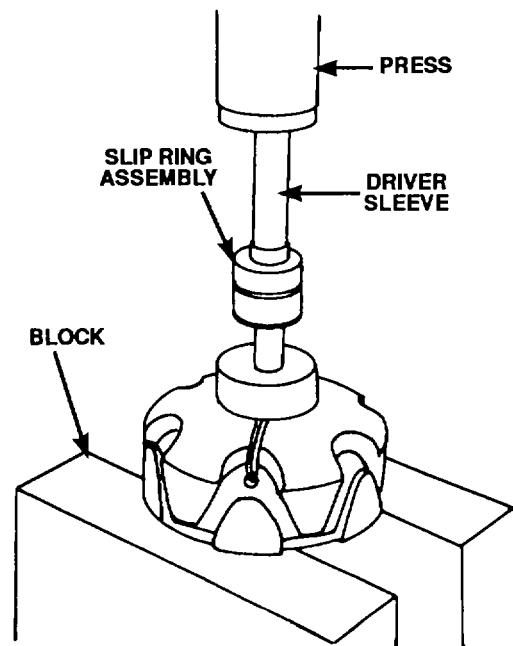

Figure 4-67. Installing Slip Ring Assembly
2. Place the rotor on a press (figure 4-67) and, using an installation sleeve with a diameter that clears the leads, press the slip ring assembly onto the rotor shaft.
- q. Placing the rotor/front housing assembly on a press, press front bearing (9) onto the rotor shaft and into the front housing (8).
- r. Place diode (20) into rear housing.